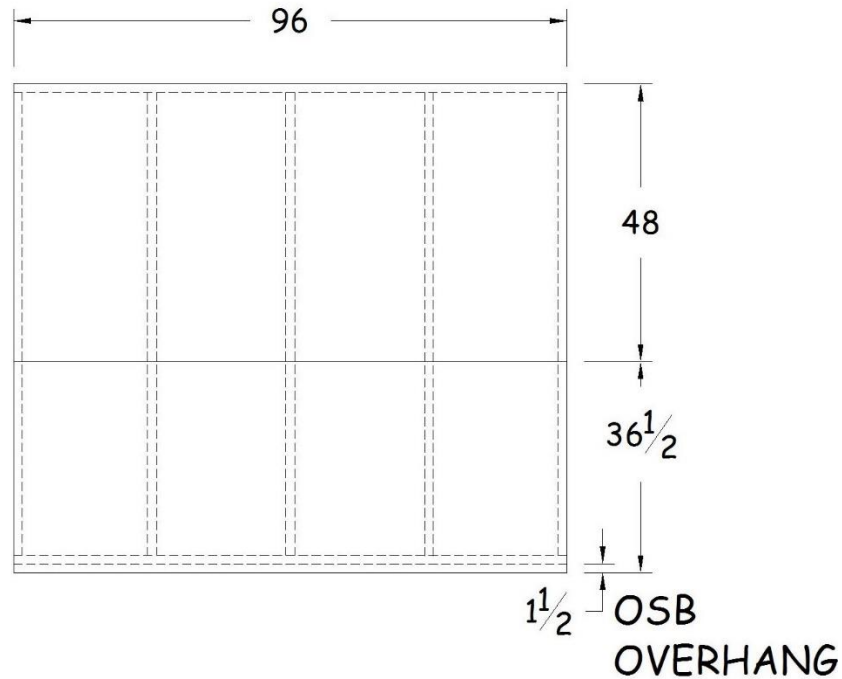

Figure 22-8. Side Wall Sheathing.
- c. Cut two additional pieces of 1/2" OSB approximately 36 1/2" x 96", to fit below the upper section of OSB. These pieces should fit tight to the upper OSB pieces and overhang the bottom plate by 1 1/2". Nail into all studs and the bottom plate with 8d nails every 8-12". See Figure 22-8.